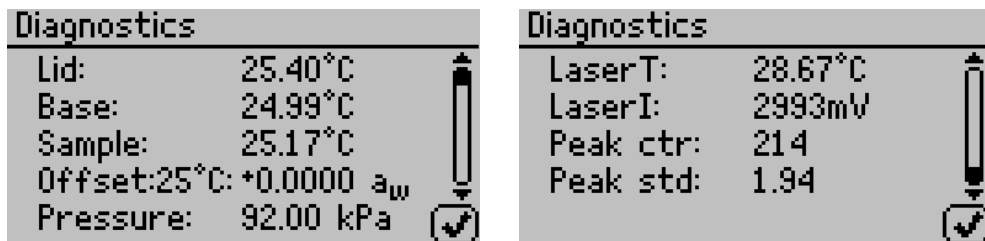

Figure 41 Diagnostics screens
- **Diagnostics.** Select to view AQUALAB TDL information (Figure 41).
Diagnostics screen provides lid, base, sample and laser temperatures, laser intensity, atmospheric pressure, and water activity offset. Figure 41 shows typical values for the sensors.